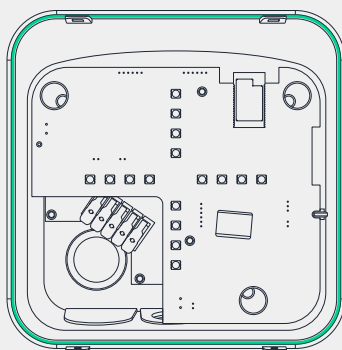

Fig. 9 - Rubber seal
18. Verify that the rubber seal mounted on the inside border of the enclosure is fitted tight in the designated place. (Fig. 9)